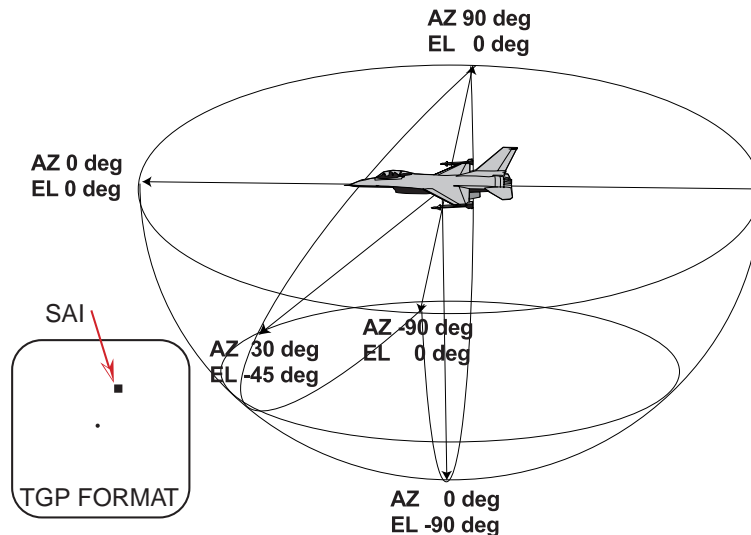

Figure 4-3 TGP LOS Positions Relative To The Aircraft
- 18) Situation Awareness Indicator (SAI): A small square appears on the TGP format indicating TGP LOS in azimuth and elevation. The square is positioned around the center of the display at its azimuth relative to the nose of the aircraft, and its position from the center of the display indicates its elevation with the center representing -90 degrees elevation and the edge 0-degrees. Some examples may help clarify this scheme: The 12-o'clock position at the top of the display indicates 0-degrees relative azimuth and 0-degrees elevation; the 3-o'clock position at the right edge of the display indicates 90-degrees azimuth and 0-degrees elevation. A position half way between the edge and center of the display indicates -45-degrees elevation; and the center of the display indicates -90-degrees elevation. The 6-o'clock position half way between the center and bottom of the display indicates 180-degrees azimuth and -45-degrees elevation. Figure 4-3 shows TGP LOS positions relative to the aircraft.